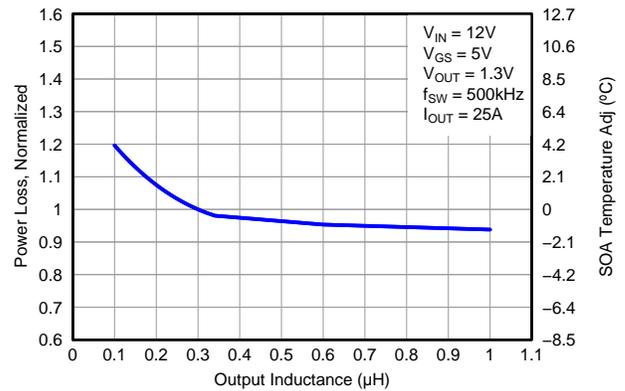

Figure 9. Normalized Power Loss vs. Output Inductance
- Normalized Power Loss for output inductor  $\approx 1.07$  (Figure 9)
- SOA adjustment for output inductor  $\approx 1.7^\circ\text{C}$  (Figure 9)